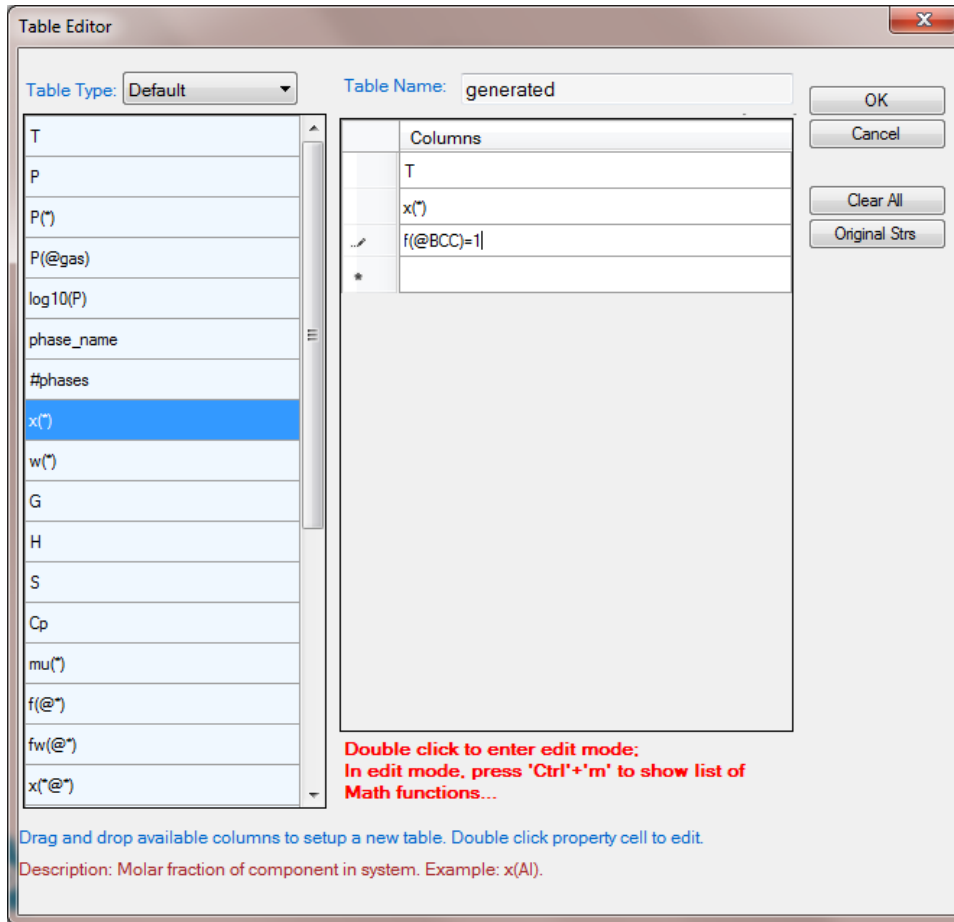
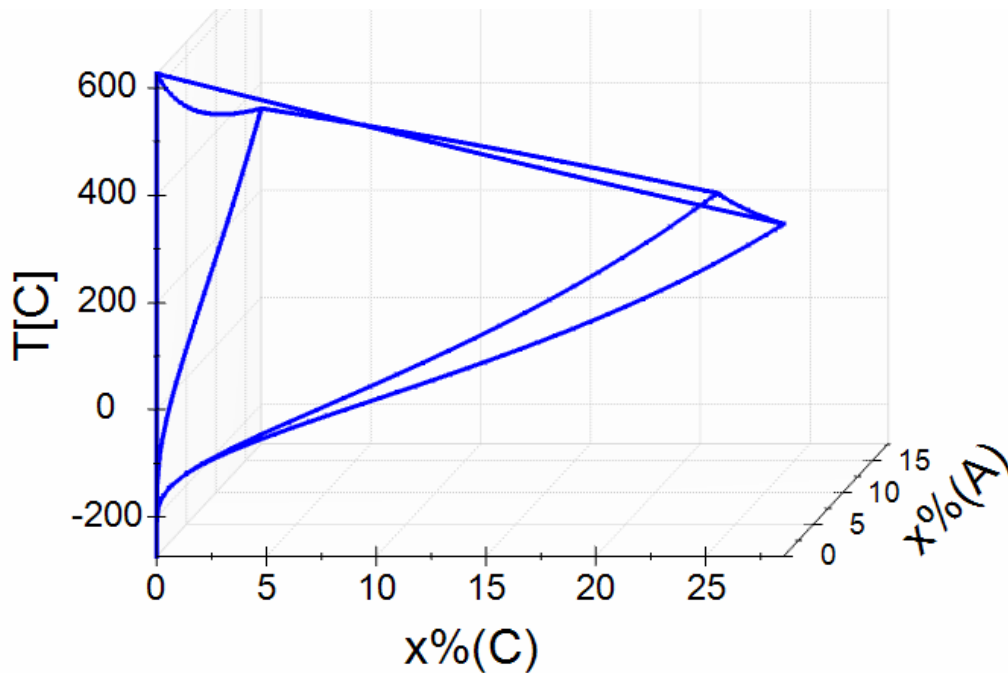
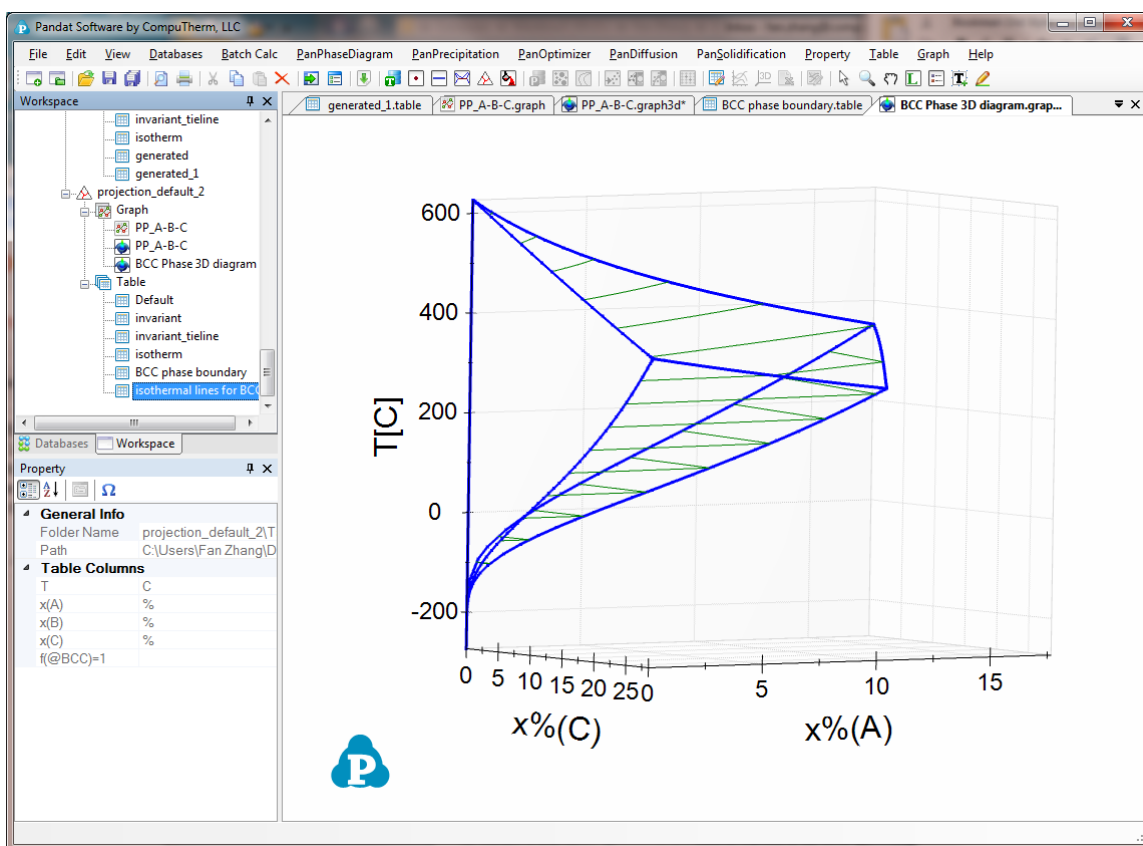

Figure 1.17.3: Add a new Table to get the phase boundary data just for the BCC phase
Figure 1.17.4: Plot 3D diagram for BCC phase only
Figure 1.17.6: 3D diagram for the BCC phase with isothermal lines
- Add a new Table as shown in Figure 1.17.3 to get the phase boundary data just for the BCC phase. Select x(C) as x-axis by selecting this column first, then press Ctrl and select x(A) as y-axis, then press Ctrl and select T as z-axis, plot 3D diagram as shown in Figure 1.17.4;
- Double click to open the 3D diagram for BCC (Figure 1.17.4), single click the table name for the isothermal lines. From the Property window, drag in x(C) first, then press Ctrl and drag in x(A), then press Shift and drag in T, the isothermal lines for the BCC phase will be plotted on it as shown in Figure 1.17.6;